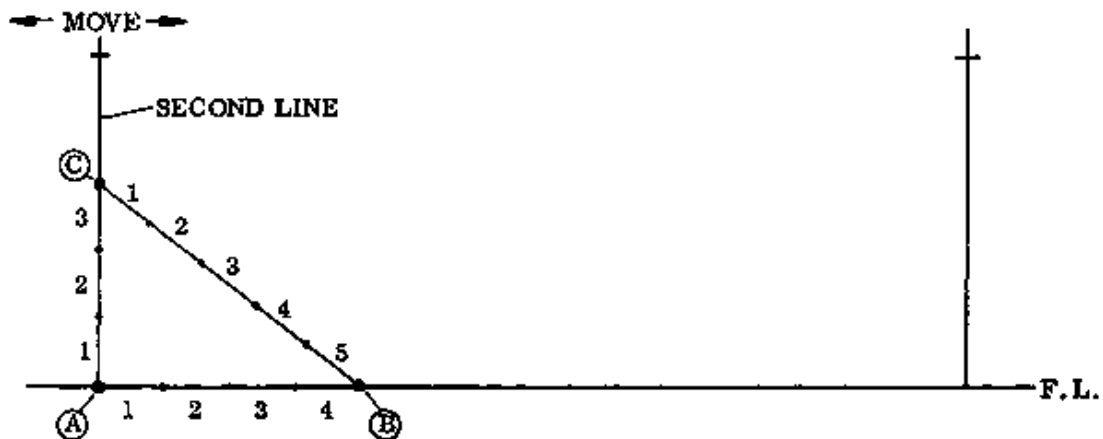

Fig. 2 3-4-5 METHOD
- Measure a distance of 4 m along the front line starting from point A, and mark this on the line (point B) (Fig. 2).